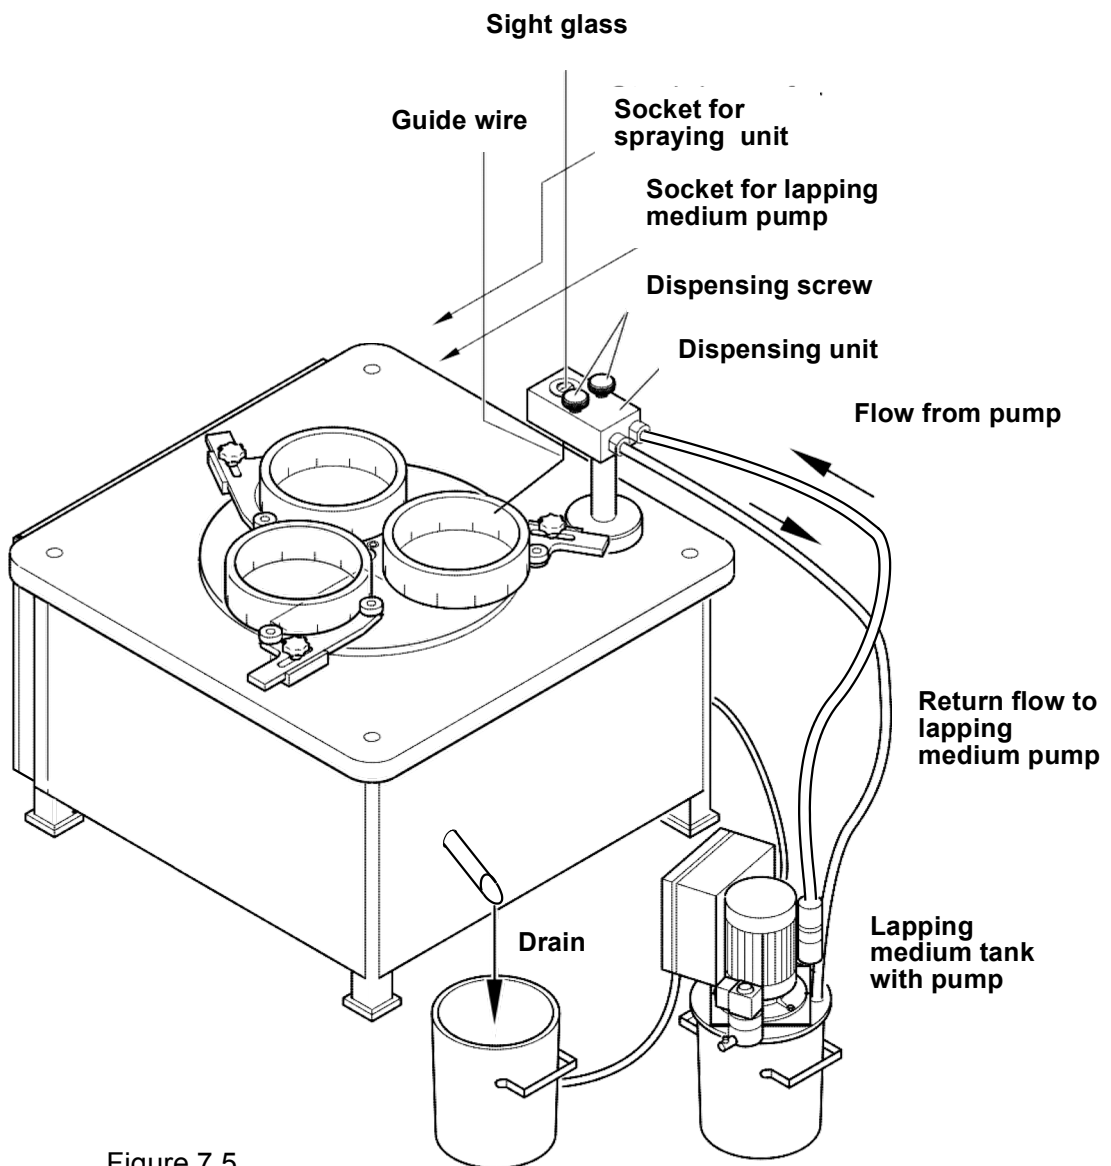

Figure 7.5
- (1) Degrease the dressing rings and lapping disc with a suitable medium.
- (2) Apply the dressing rings to the lapping disc in the "neutral" position.
- (3) Install the lapping medium tank with the pump and waste tank (see Fig. 7.5).
- (2) Position the lapping medium and waste tank on the machine. Install the lapping medium pump (Fig. 7.5).